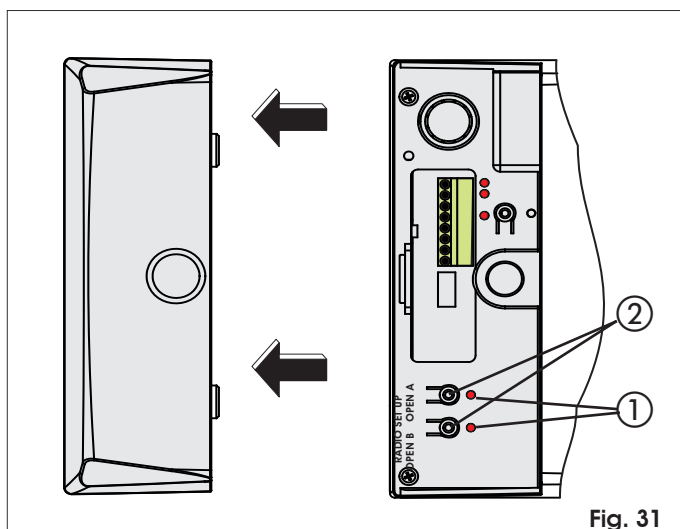

Fig. 31
- 2) To respectively memory store total or partial opening, press the OPEN A or OPEN B push-button for one second (Fig. 31 ref. ②).
- 3) The relevant LED (Fig. 31 ref ①), begins to flash for 5 sec.
- 4) To respectively memory store total or partial opening, press the OPEN A or OPEN B push-button for one second (Fig. 31 ref. ②).